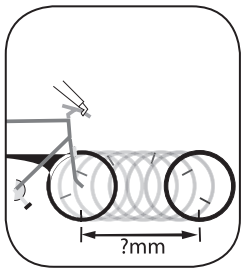

Figure 18- Measuring rollout for wheel size
1. With the valve stem of the front wheel directly over the floor (Figure 18), sit on the bike.